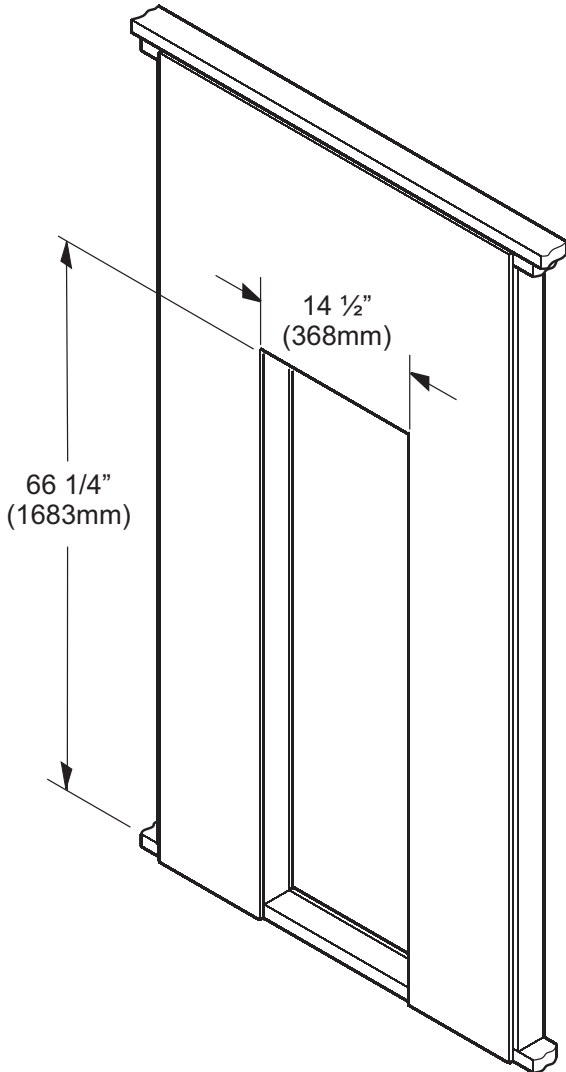
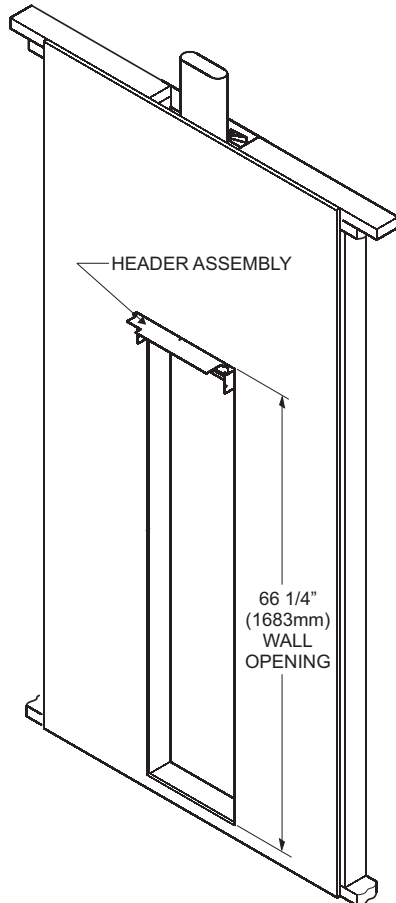

Figure 14
Figure 19
1. Provide an opening in the wall 14 1/2" (368 mm) wide and 66 1/4" (1683 mm) high measured from top of floor plate (See Figure 14 and Figure 19). Wall depth is to be 2" x 4" framing with 1/4" (6.5 mm) to 5/8" (16 mm) sheathing.
## Plastering (Figure 19)